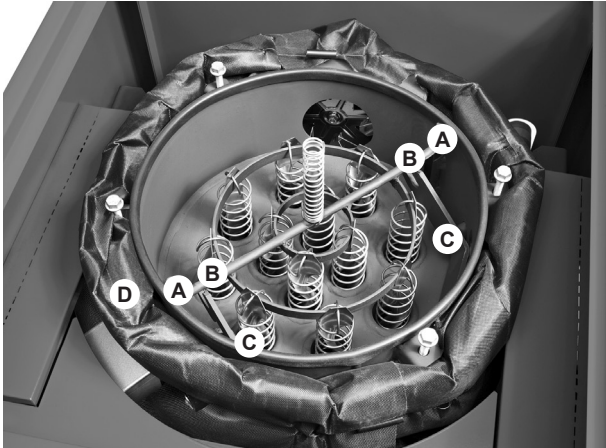

Fig. 07
6. Lubricate the following components (Fig. 07) with adhesive lubricating grease:
- Guide rails (A)
- Lever-shaping pipe contact points (B)
- Lever pivot points (C)
- Eccentric disc (D)